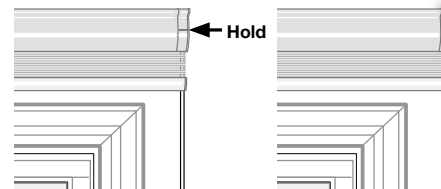

Fig. 15
- B. Press and hold the program button on the headrail/motor end until the LED flashes green (about three seconds), and release. The shade will jog and all LEDs will turn off. The shade will now operate from the newly added remote. (Fig. 15)